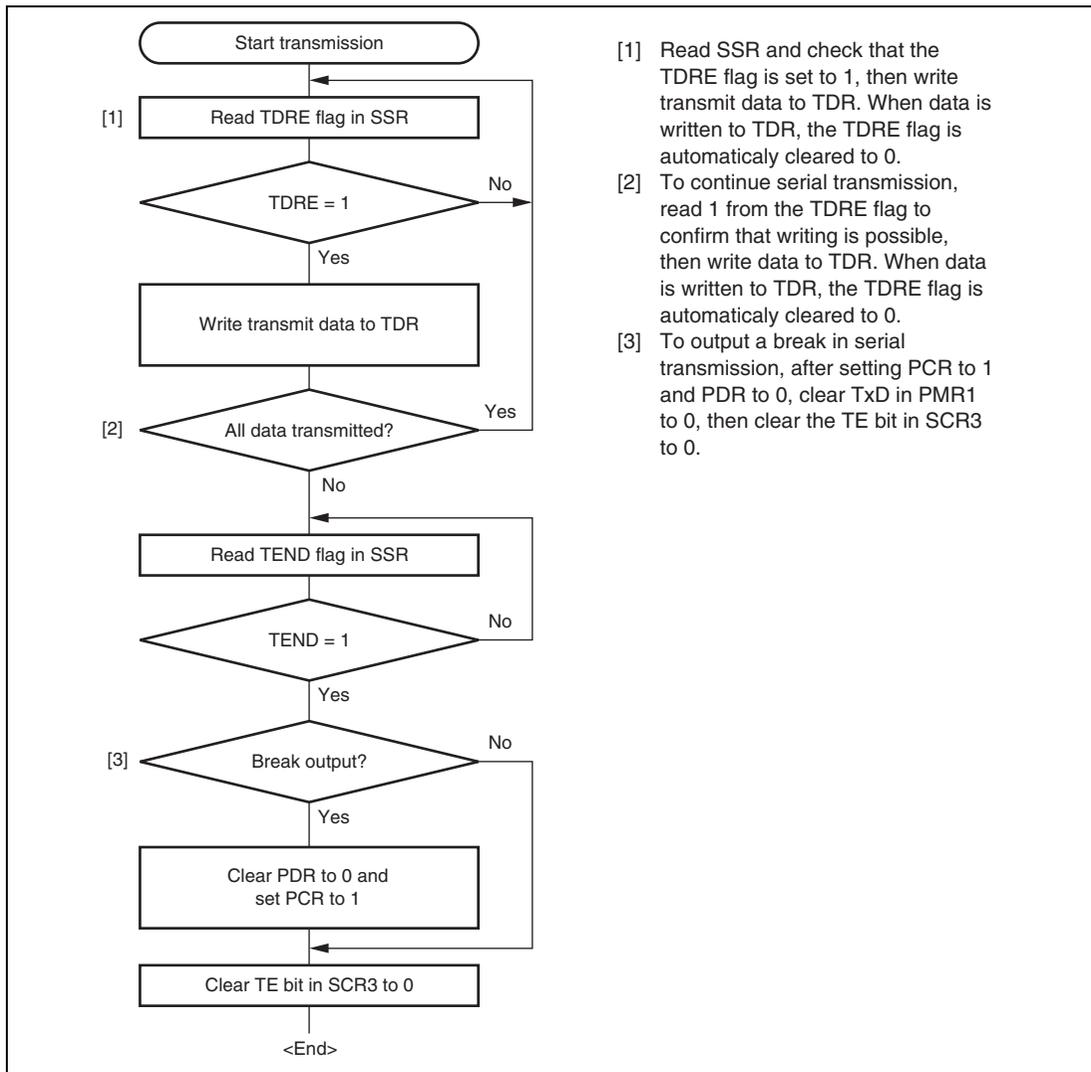

Figure 13.6 Sample Serial Transmission Data Flowchart (Asynchronous Mode)
6. Figure 13.6 shows a sample flowchart for transmission in asynchronous mode.